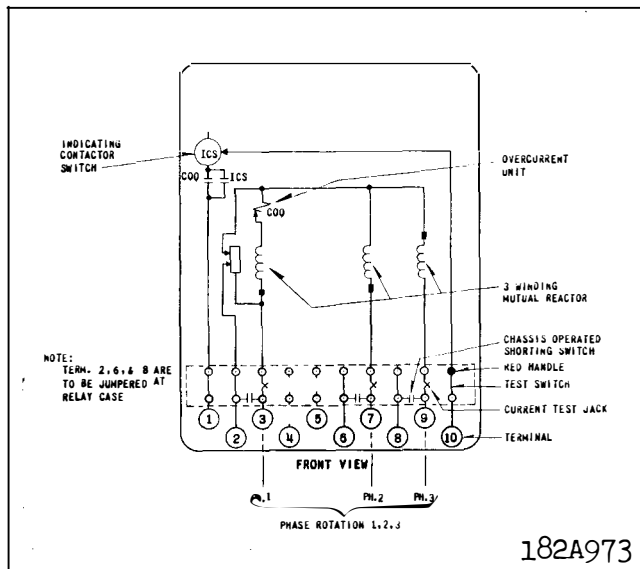

Fig. 2. Internal Schematic of the Type COQ Relay in the FT21 Case - Neutral Formed in Relay.
- Now measure the voltage across the resistor. Adjust top filter resistor position until this voltage is 1.73 times the reading from (d) above. (For relays wired per figure 2 connect the voltmeter to switch jaw 3 and to the
To eliminate zero sequence response (relays wired per figure 2 only), remove tap screw, and connect per figure 9: Apply  $I_x = 5$  amperes;  $I_y = 10$  amperes. Measure voltage from terminal 3 to top filter resistor screw connection (see figure 1). Adjust the neutral filter resistor tap until measured voltage is zero.